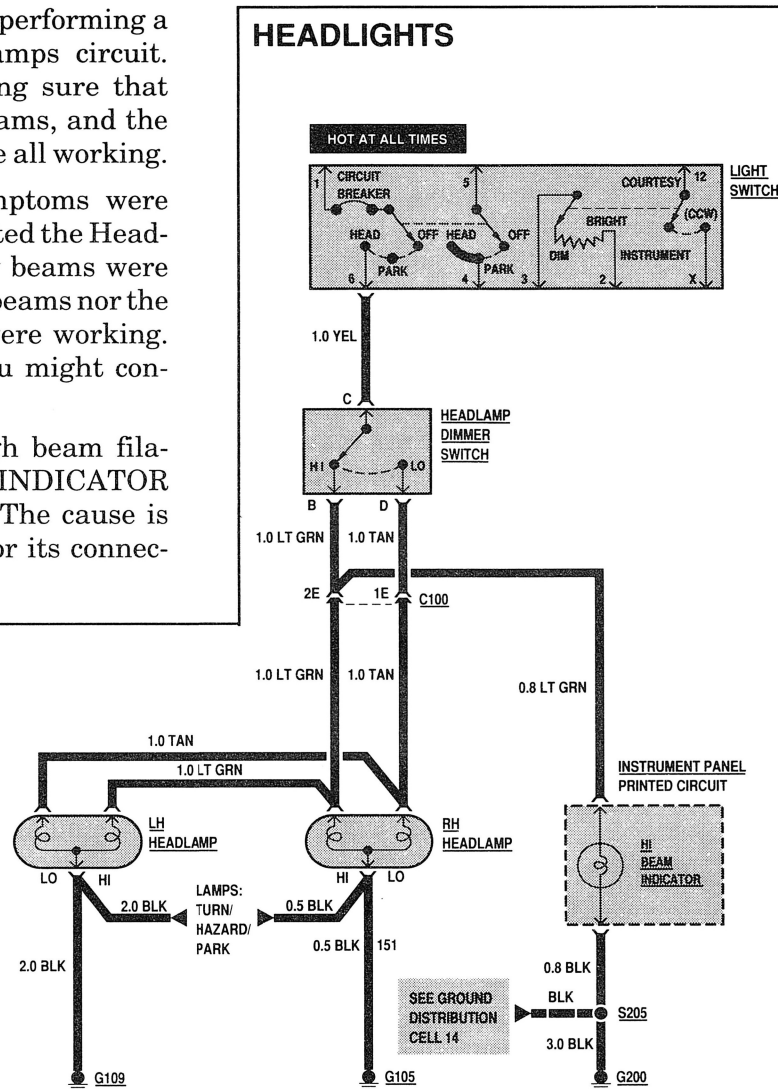

Figure 3 - Typical Headlamp Schematic
Step 2: Read the Headlights electrical schematic (Figure 3). This is the step that will save you time and labor. Remember, it is essential to understand how a circuit should work, before trying to figure out why it doesn't.